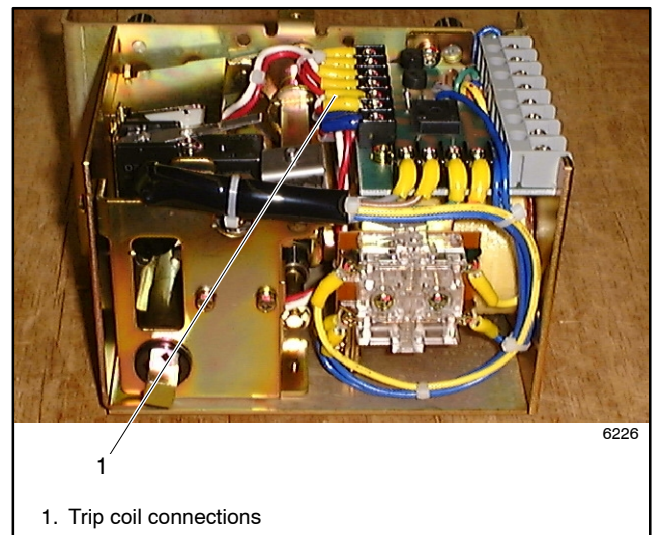

Figure 8-23 Trip Coil Connections
2. Note the connections and disconnect the trip coil leads from the printed circuit board. See Figure 8-23.